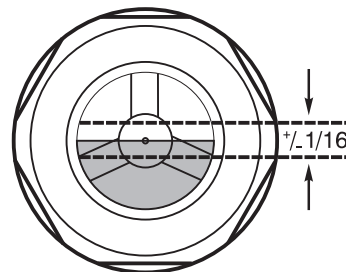

Figure 7. Sight glass
- 3) Using the supplied syringe and oil, slowly add oil until it is $\pm 1/16"$ of the center of the sight glass [Figure 7]. **DO NOT OVERFILL.** Only use Shell Morlina lubricating oil.